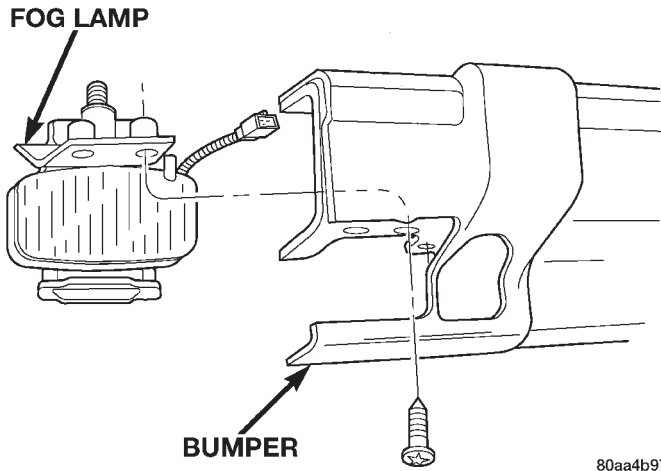

Fig. 3 Fog Lamp
- (1) Disconnect the fog lamp wire harness connector.
- (2) Remove the screws attaching the fog lamp to the support (Fig. 3).
- (3) Separate the fog lamp from the vehicle.